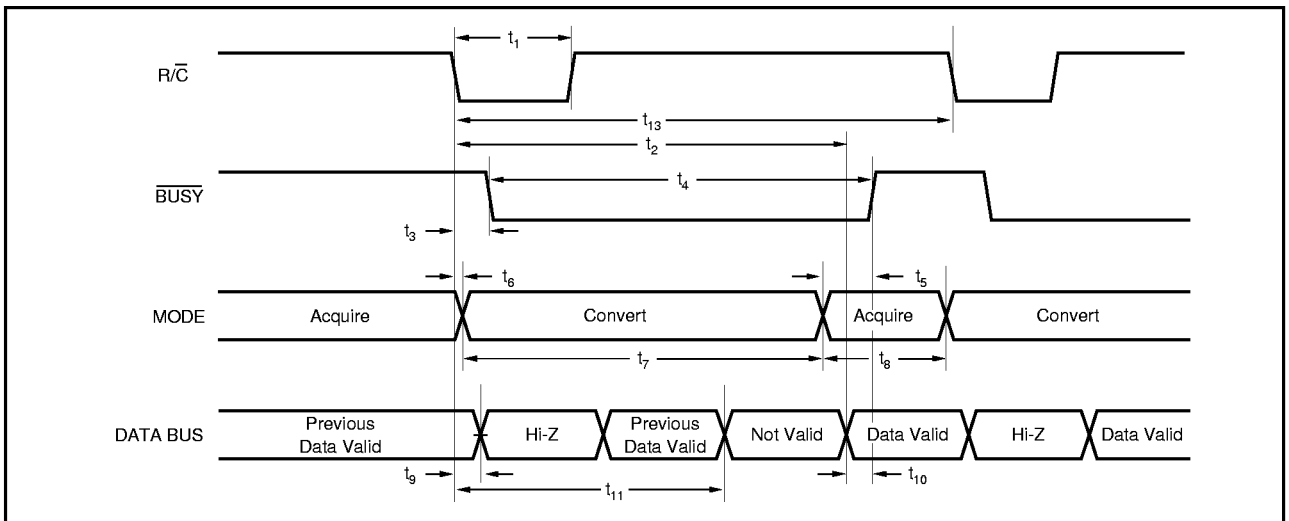

FIGURE 3. Conversion Timing with Outputs Enabled after Conversion (\overline{CS} Tied LOW.)
Table II for a summary of $\overline{\text{CS}}$, $\overline{R/\overline{C}}$, and $\overline{\text{BUSY}}$ states and Figures 3 through 5 for timing diagrams.
NOTE: (1) See Figures 3 and 4 for constraints on data valid from conversion "n-1".
After conversion 'n' is completed and the output registers have been updated, \overline{BUSY} (pin 26) will go HIGH. Valid data from conversion 'n' will be available on D15-D0 (pin 6-13 and 15-22). \overline{BUSY} going HIGH can be used to latch the data. Refer to Table IV and Figures 3 and 5 for timing specifications.
After conversion 'n' has been initiated, valid data from conversion 'n-1' can be read and will be valid up to $7\mu s$ after the start of conversion 'n'. Do not attempt to read data from $7\mu s$ after the start of conversion 'n' until \overline{BUSY} (pin 26) goes HIGH; this may result in reading invalid data. Refer to Table IV and Figures 3 and 5 for timing specifications.
The number of control lines can be reduced by tying \overline{CS} LOW while using R/\overline{C} to initiate conversions and activate the output mode of the converter. See Figure 3.